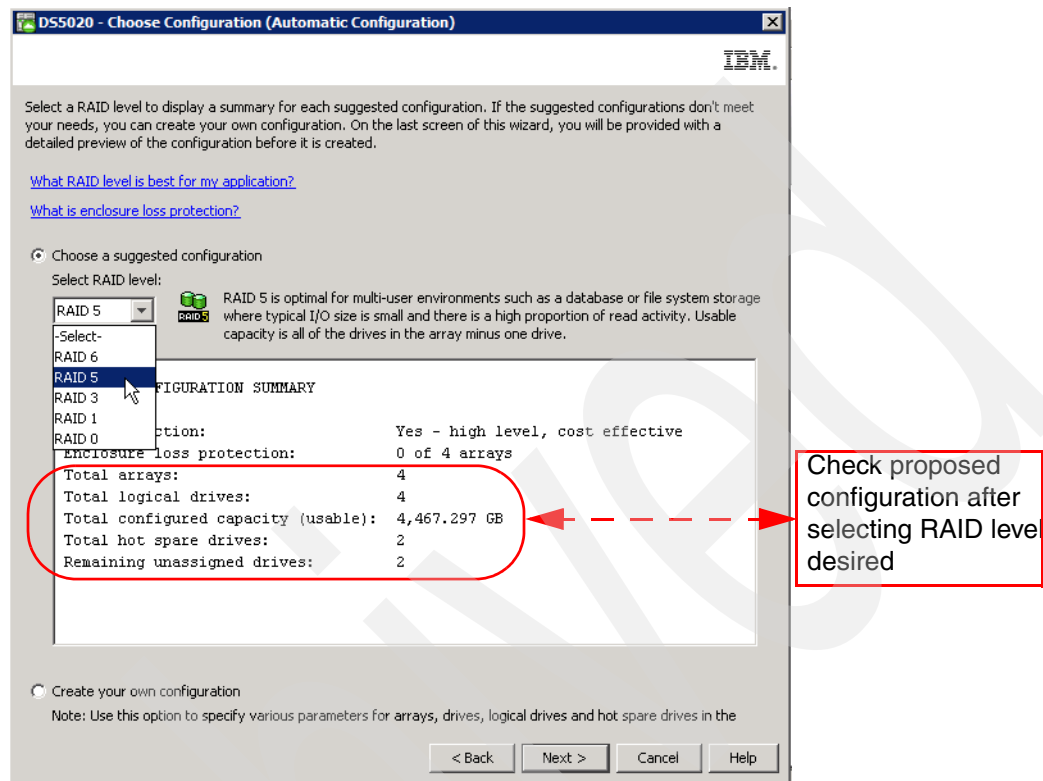

Figure 4-44 Choosing the RAID level
- In the window that follows, choose between **Choose a suggested configuration**, selecting the RAID level desired, or **Create your own configuration**, as shown in Figure 4-44.